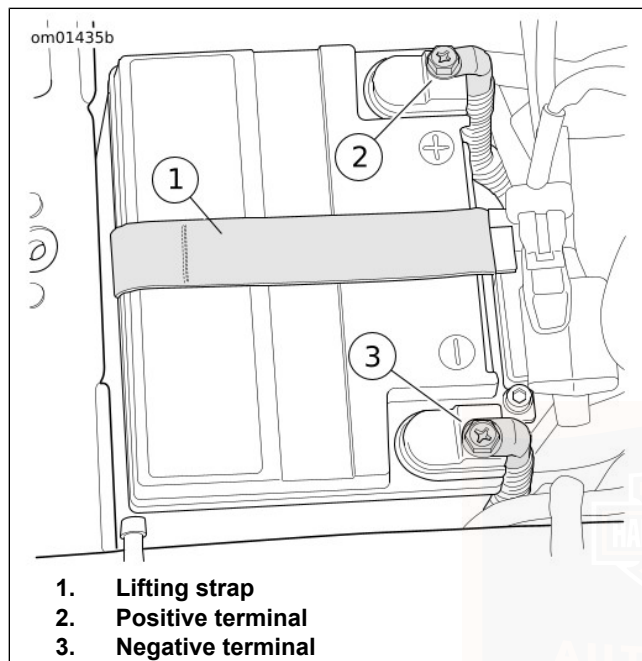

Figure 85. Battery Compartment
10. See Figure 85. Disconnect both battery cables, negative battery cable first.
3. See Figure 85. Place the battery into the battery tray, terminal side forward.